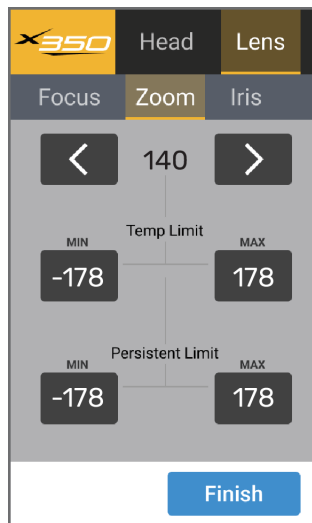

Figure 42 - Zoom Axis Controls
2. Use the main tabs (**Head** and **Lens**) and their sub-tabs to navigate to the axis you want to operate. For example, **Lens > Zoom** (**Figure 42**).